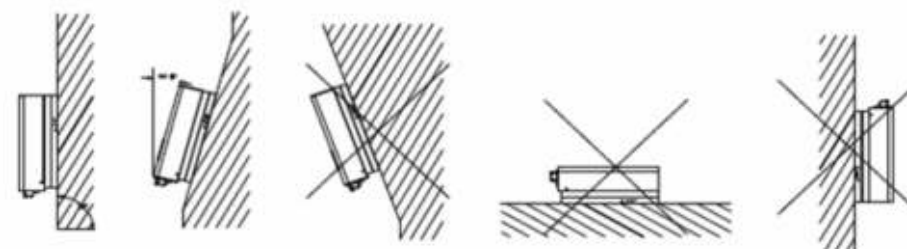

Fig. 5.1
2. Please install the equipment under the guidance of Figure 5.1.